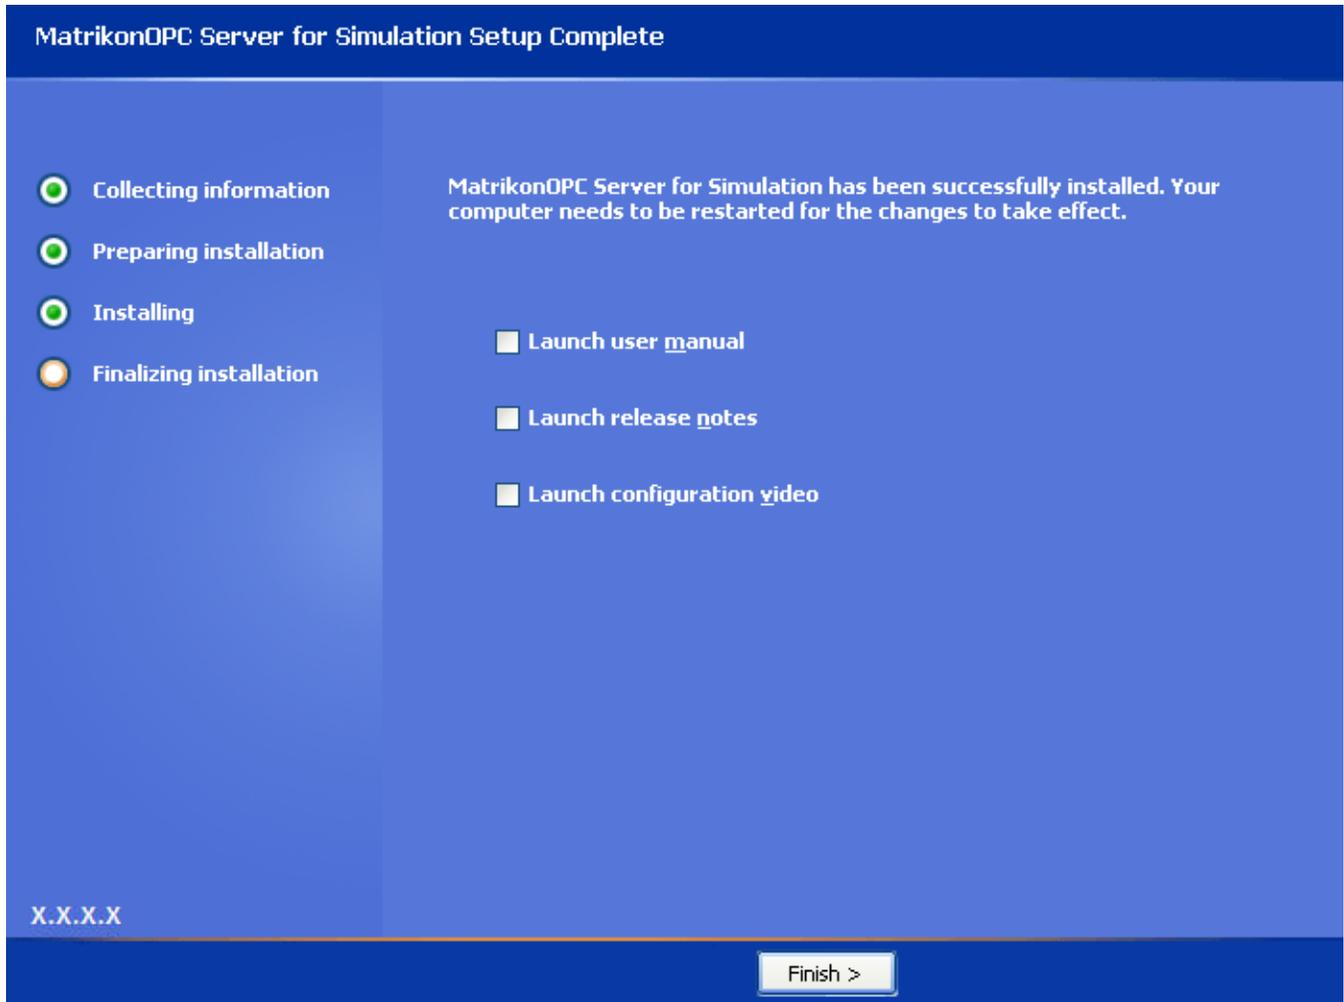

Figure 9 - MatrikonOPC Server for Simulation Setup Complete Screen
15. When the installation has finished, the **MatrikonOPC Server for Simulation Setup Complete** screen (Figure 9) appears stating that MatrikonOPC Server for Simulation has been successfully installed.